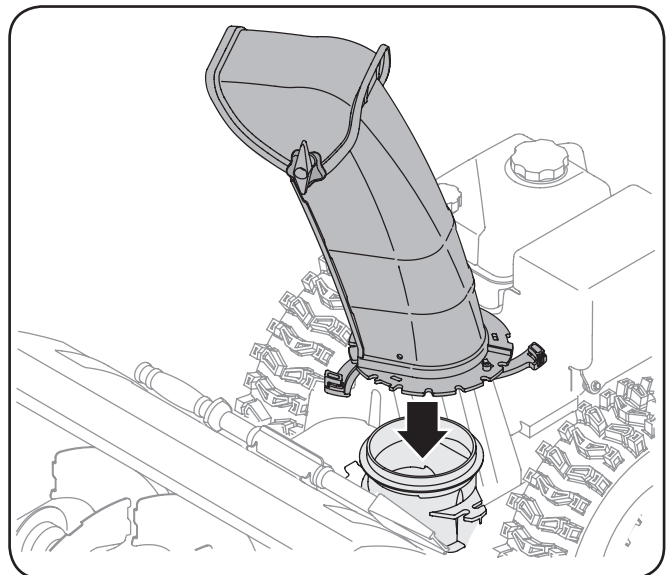

Figure 3-3
1. Position the chute assembly over the base. See Figure 3-3.